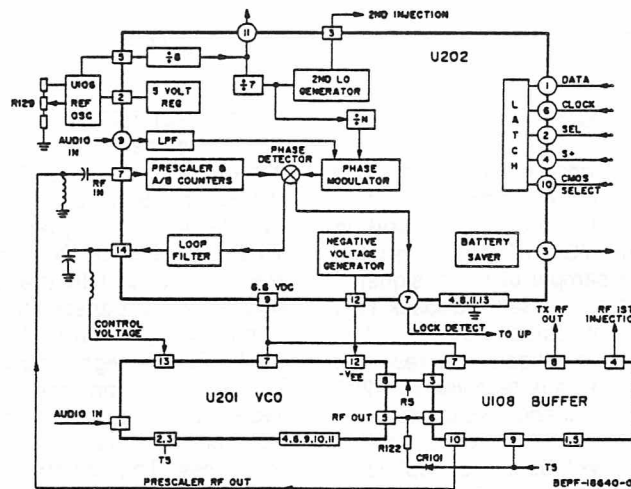

Figure 6. VCO / Synthesizer Block Diagram, UHF
(2) The VCO (UHF Radios - Figure 6)